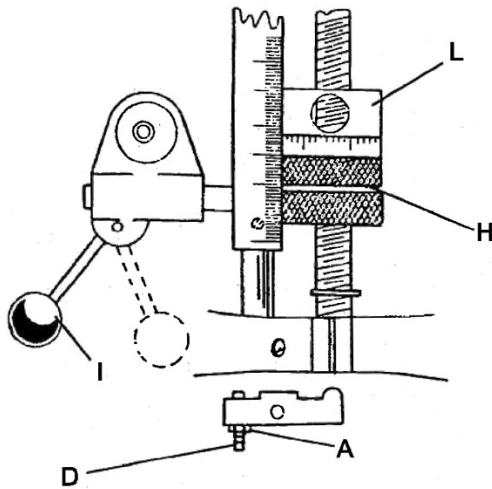

Figure 12: Feed trip adjustment
- Tighten four turret lock bolts (C, Figure 12).
Refer to Figure 12:
- Loosen locknut (A, Figure 12).
- Engage trip lever (I) by pulling away from head assembly.
- Adjust micrometer nuts (H) against quill stop (L).
- Slowly turn adjusting screw (B) with provided hex key until lever (I) trips.
- Tighten locknut (A).